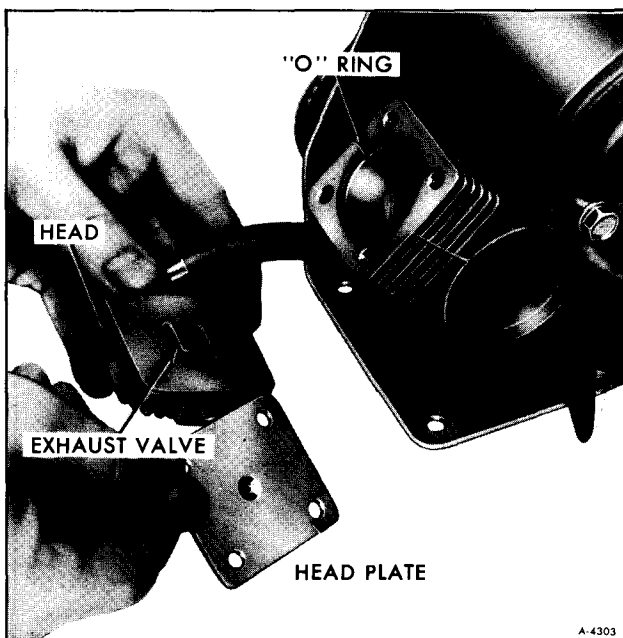

Figure 45—Valve Components
2. The head, exhaust valve, and head plate usually come off as a unit. These parts can be gradually worked apart by inserting a knife blade between the head and exhaust valve (figure 45).